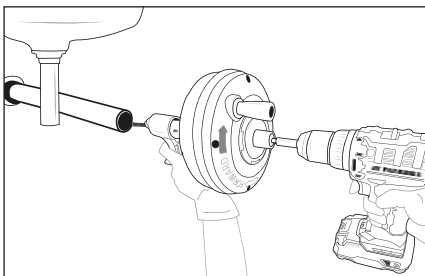

Fig. 3
- 8) Check that the appliance can be kept at a maximum distance of 10 cm from the drain opening. A greater distance from the drain opening increases the risk of the spiral **8** twisting or kinking. If the distance is greater, the drain opening must be extended with pipes and connections of the same size so that the appliance can be placed a maximum of 10 cm in front of the drain opening (see Fig. 3). If the spiral **8** is insufficiently supported, it can kink, twist and be damaged or injure the user.
- 7) Turn the drum **2** clockwise (visible by the arrow on the back of the drum **2**, see Fig. 3) and press the trigger **6**. Operating the trigger **6** guides the spiral **8** into the drain.